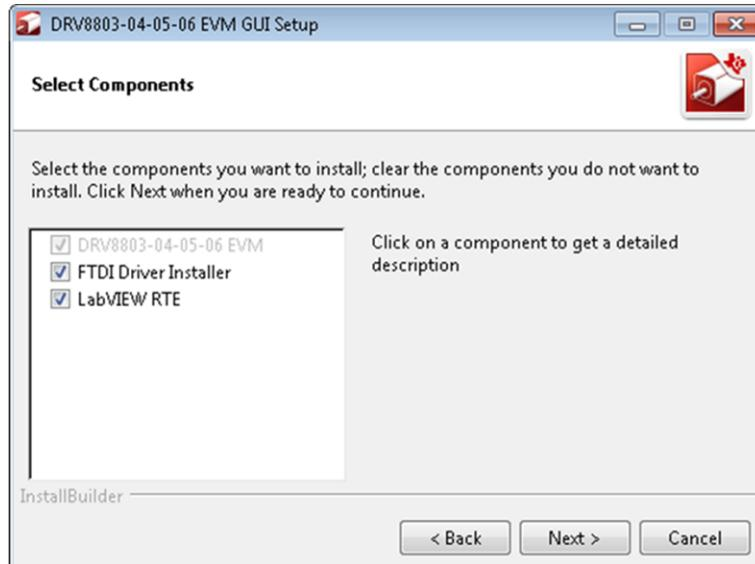

Figure 11. Component Selection
6. A screen as shown in Figure 11 appears. This screen is to select the components to install. Select the Components to Install and Click **Next** to continue installation. The LabVIEW RTE component checks out if the LabVIEW RTE 2014 is already installed on the PC.